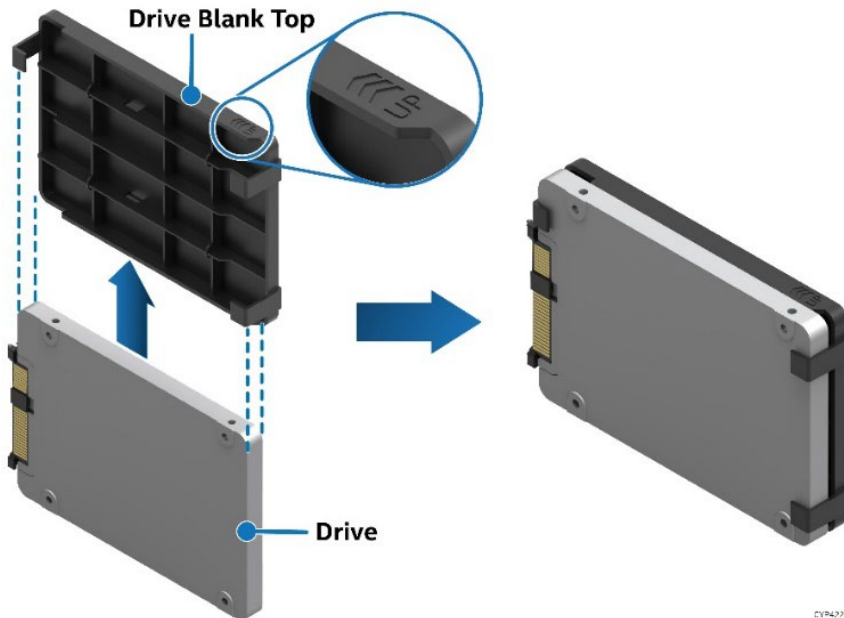

Figure 40. Attaching the Drive Blank to 7 mm SSD
- Slide the SSD drive into SSD mounting bracket. See Figure 40.